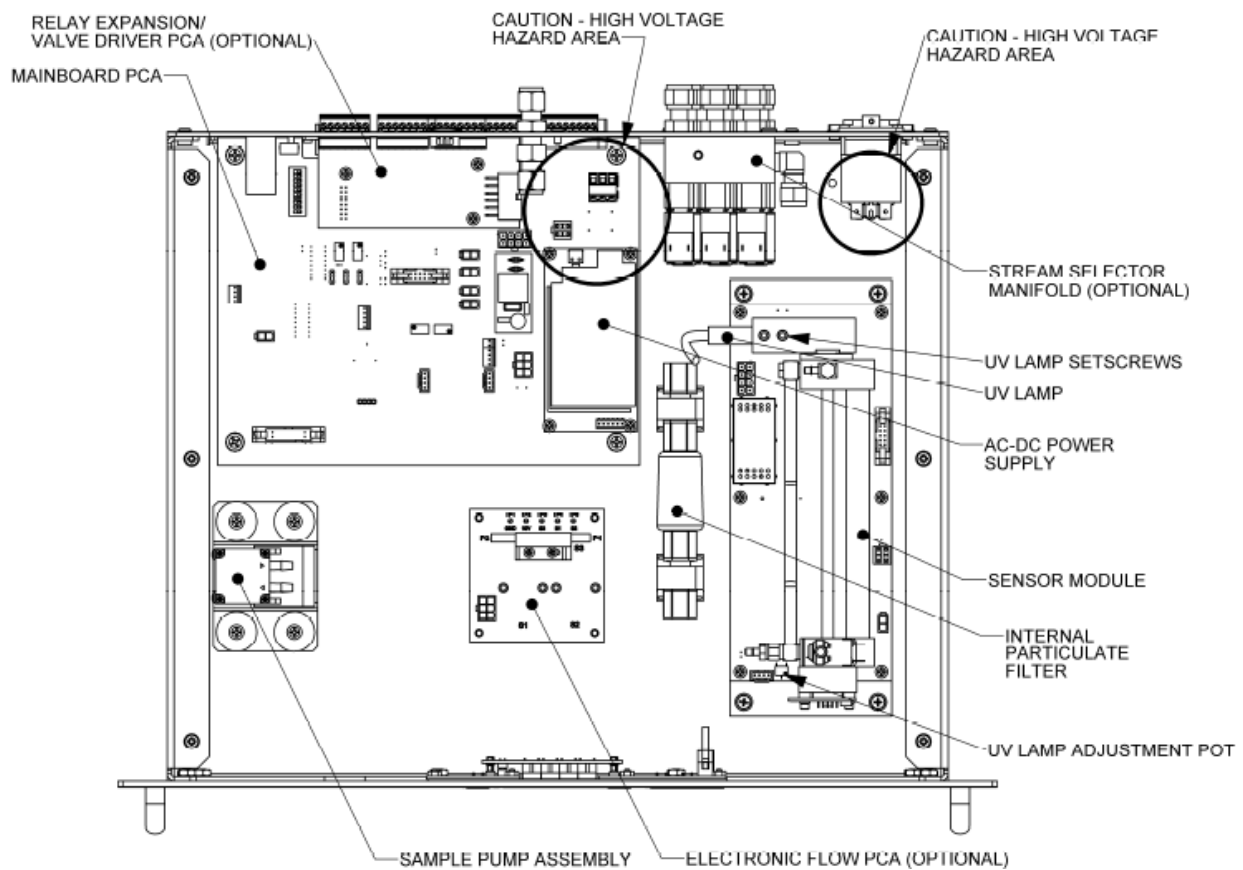
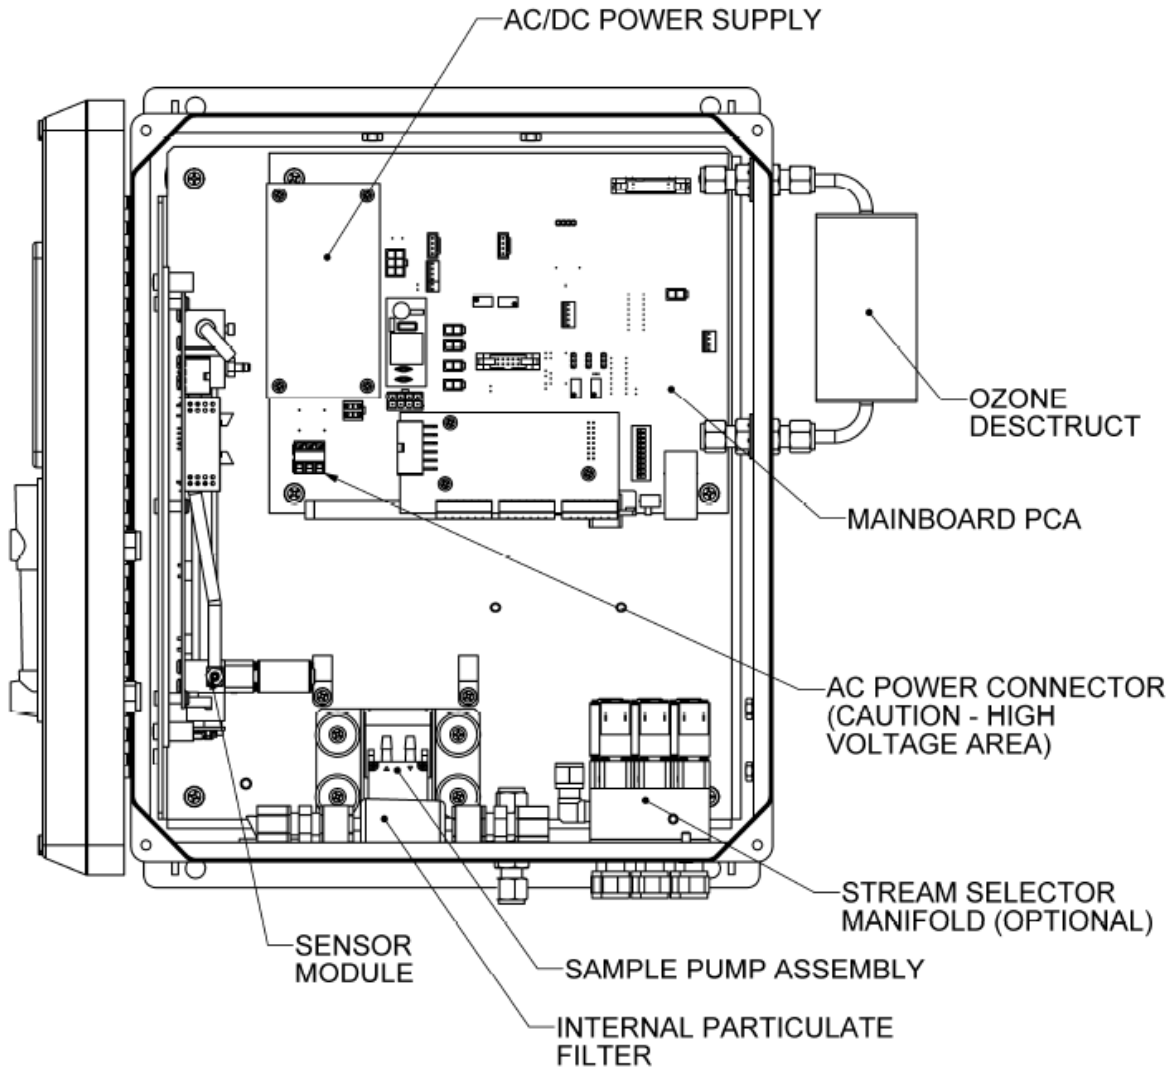

Figure 9-1: Instrument Layout, Rack Mount Configuration
Figure 9-2: Instrument Layout, NEMA Configuration
Figure 9-1 and Figure 9-2 below shows the internal layout of the 465L. These figures will be referenced in the procedures that follow.
3. Locate the filter (see Figure 9-1 or Figure 9-2 above.) Un-strap the filter from the two plastic hold-down clamps. Note the arrow on the filter showing flow direction.
4. Locate the UV Detector adjustment pot on the forward end of the sensor module (see Figure 9-1 or Figure 9-2 above.)
6. If the required adjustment cannot be achieved by adjusting the UV Detector pot alone, then additional adjustment can be made by loosening the two UV lamp setscrews on the UV lamp housing (see Figure 9-1 or Figure 9-2) and rotating the lamp. Rotate the lamp very slowly while observing the REF value on the display. Make sure the lamp does not pull out and remains seated in the housing while it is being rotated. Re-tighten the two setscrews when a desired point has been reached.
3. Loosen the two UV lamp setscrews on the UV lamp housing (see Figure 9-1 or Figure 9-2 above).
3. Locate sample pump assembly (See Figure 9-1).
3. Locate sensor module assembly (Figure 9-1).
3. Locate the Mainboard PCA (see Figure 9-1 or Figure 9-2).